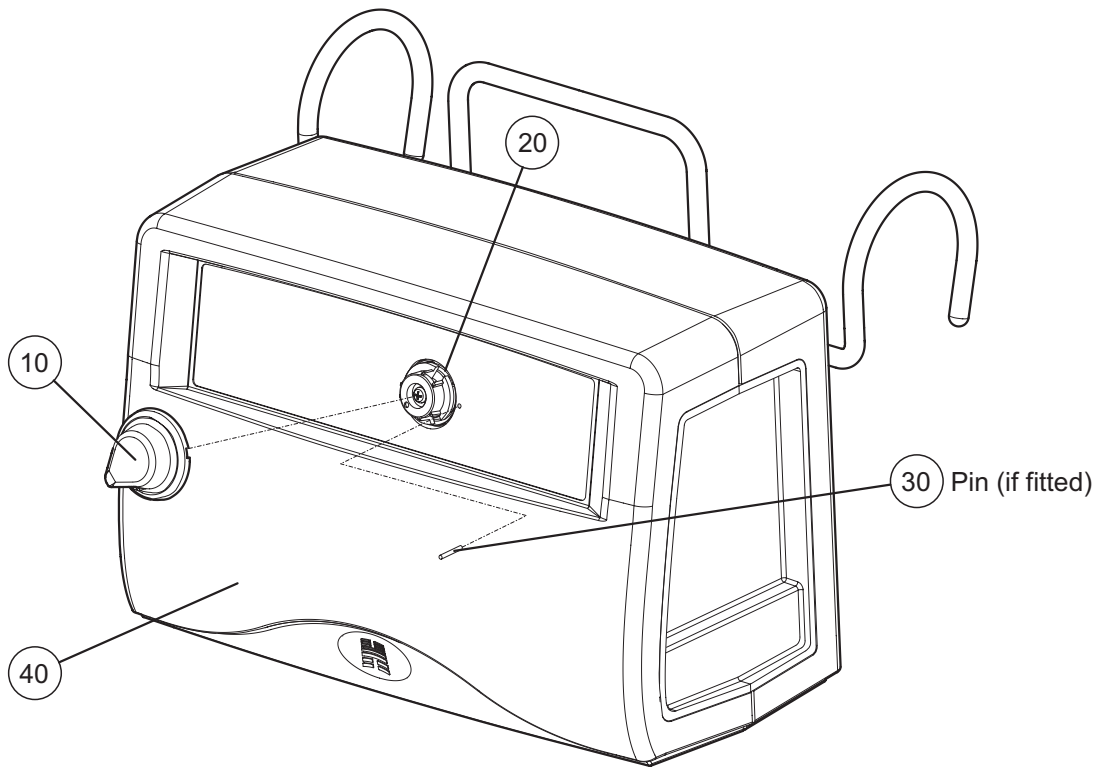

Figure 2 - Removing the Control Knob
- 2.1 Locate the slot at the rear of knob (Fig 2, Item 10) and insert a 3 mm flatpoint screwdriver.
- 3.1 Carefully position the knob (Fig 2, Item 10) so that the prongs are correctly aligned with the recesses in the knob arbour (Fig 2, Item 20)